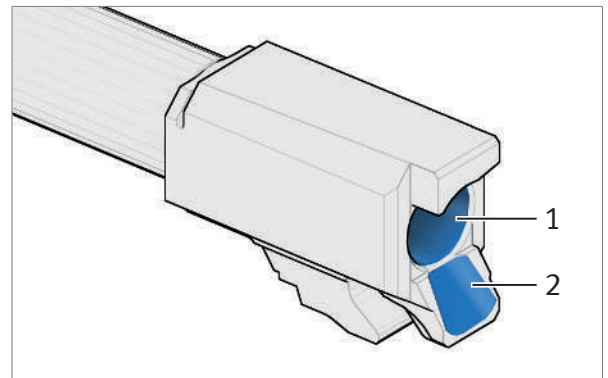

Fig. 53: Clean and oil barrel, chamber and cartridge guide
4. Pull clean cleaning pull-throughs through the barrel several times until the barrel, chamber and cartridge guide are free of oil and foreign bodies (*Fig. 53*).